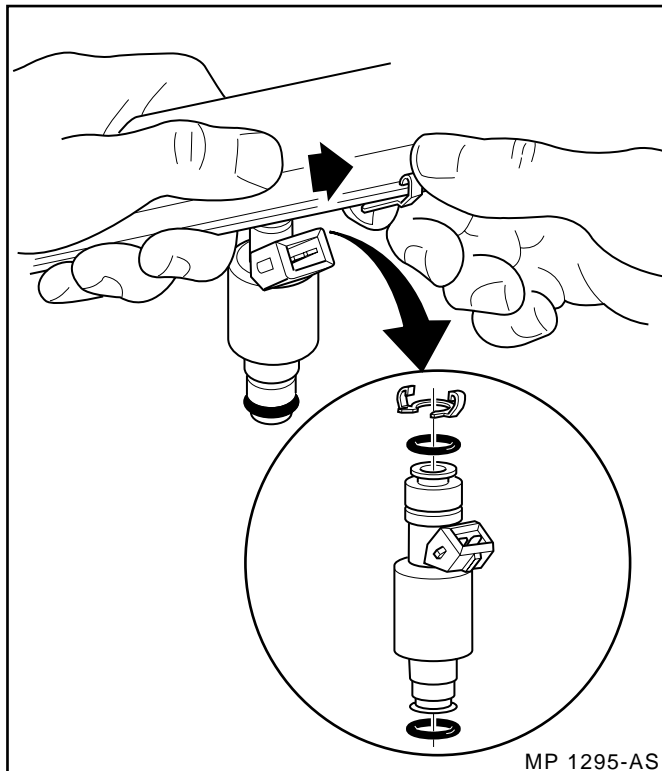

Figure 3-16 - Injector Clip Removal
Figures 3-16 through 3-18
1. Release injector clip by sliding off injector (Figure 3-16).